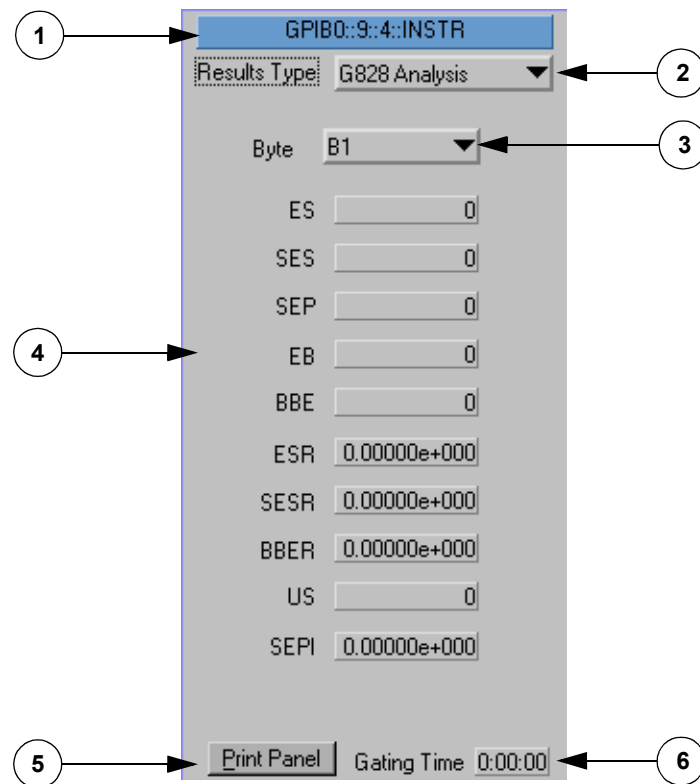

Figure 3-28. G828 Analysis Results
- G828 Analysis, see Figure 3-28.